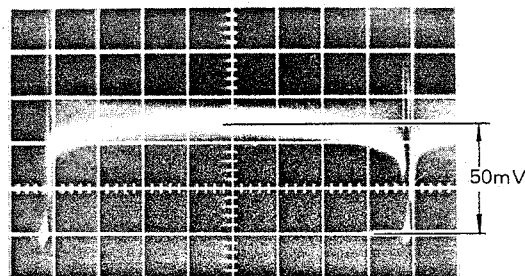

Fig. 6-4-4
- Adjust TARGET VR221 for 50mV. (Fig. 6-4-4)